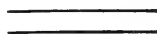

FIG. 3.
**20.** **Parallel lines** (Fig. 3) are those which are equally distant from each other at all points.